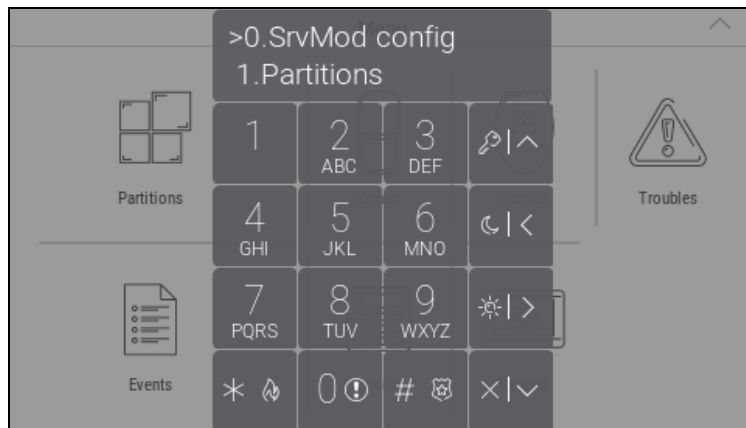

Fig. 11. Terminal displaying the service menu.
6. Tap   . The service menu will be displayed (Fig. 11).